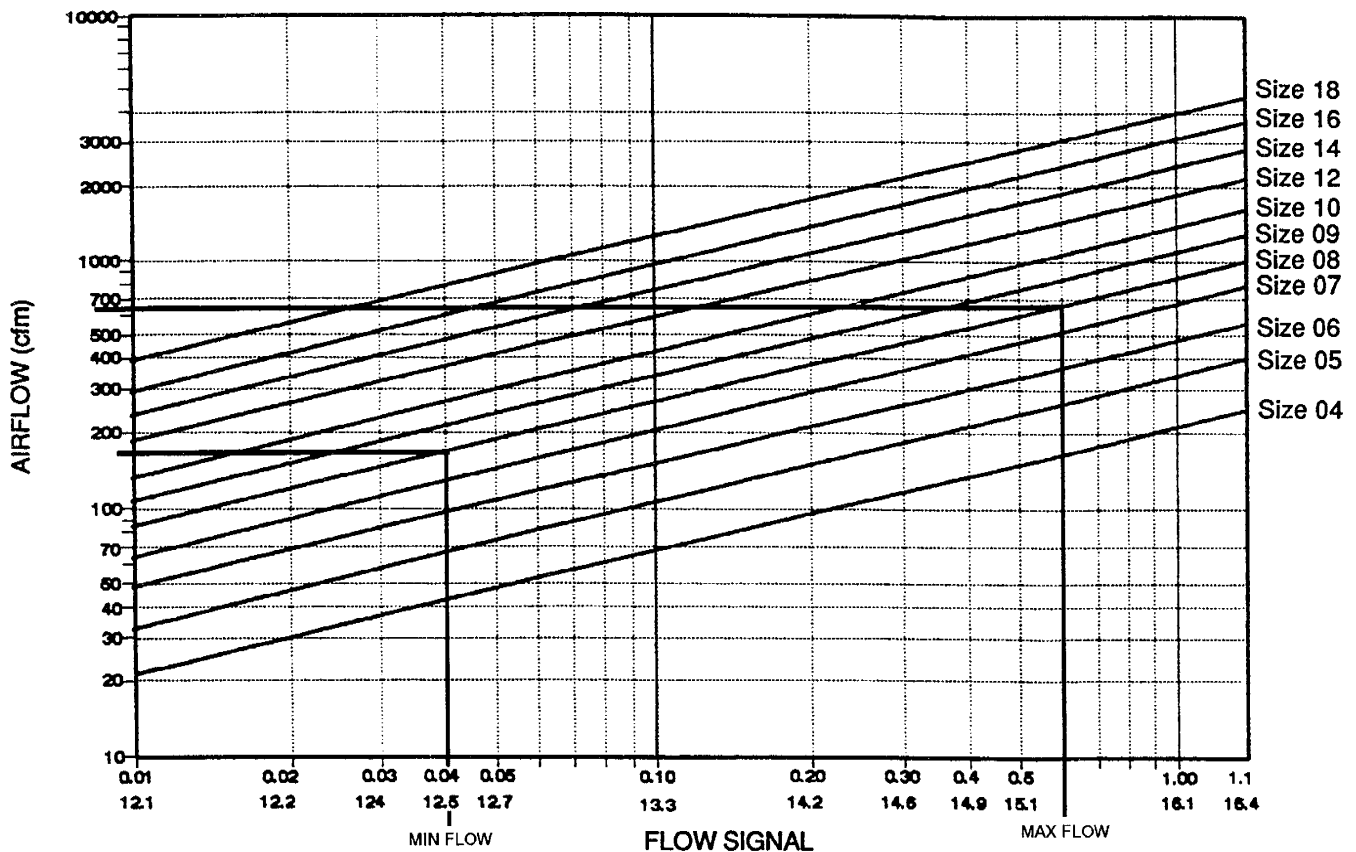

Fig. 34 - Analog Flow Probe Chart
6. Using the Analog Flow Probe Chart (Fig. 34), determine the voltage required for a given unit size to achieve minimum airflow. For example, a size 8 unit with minimum flow of 175 cfm requires a voltage of 12.5 dc.
11. Determine from Fig. 34 the voltage required to achieve maximum flow. For example, a size 8 unit at 600 cfm maximum would require a voltage of 15.3 dc.